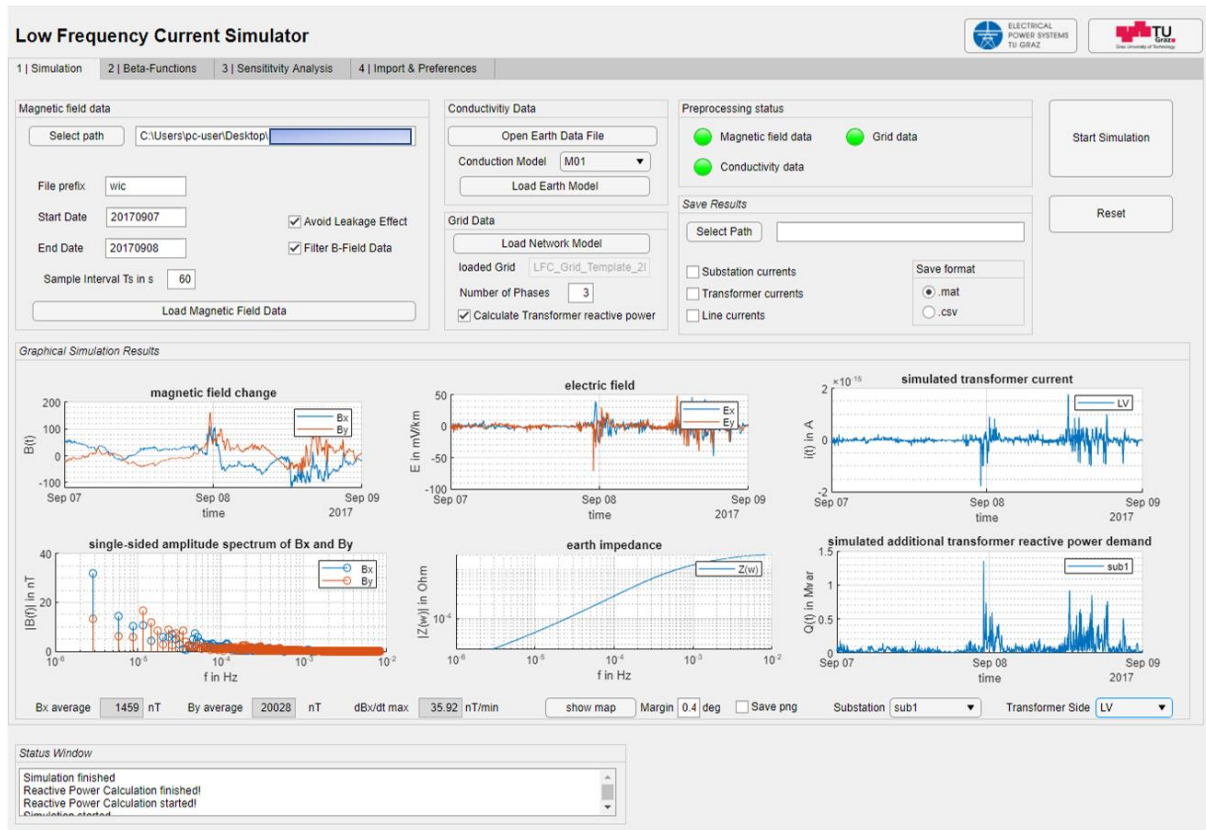

Figure 9: Simulation results
6. Press *Start Simulation* to start the simulation process. After a successful simulation, the results are shown in the GUI as depicted in Figure 9 and the results are saved (e.g. *LFC\_Grid\_Template\_2Nodes\_LineCurrents.mat*). On the bottom right corner, it is possible to switch between substations and transformer voltage levels.